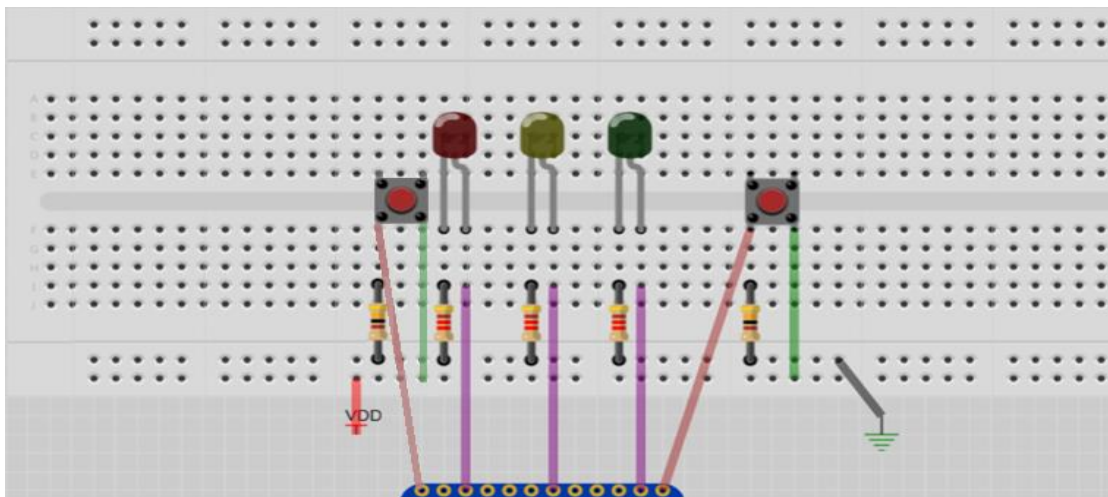

Figure 2 Wiring diagram for LEDs and buttons
- 4 Construct a circuit consisting of 3 external LEDs (red, yellow, green) and two buttons B1 and B2 as the example in Figure 2.